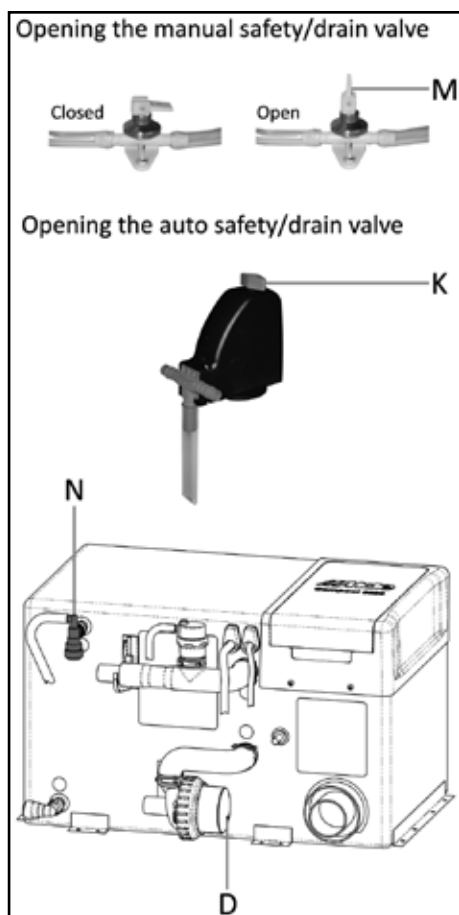

Fig.1
3. Open the safety/drain valve by lifting the yellow tab (Fig.1 [M]): see page 62, or by turning the blue knob (Fig 1.[K]) 90°.
NB: Check that the red breather valve (Fig.1 [N]) is allowing air to enter the hot water cylinder, when it is being drained, and that the clear plastic hose is not obstructed.
Set the 12v inline circulation pump on the side of the boiler to speed 5 (Fig.1 [D]): see page 62, by turning the blue speed dial clockwise, on the face of the pump motor. NB: Speed is not adjustable if using the 12v circulation pump fitted in the expansion tank.